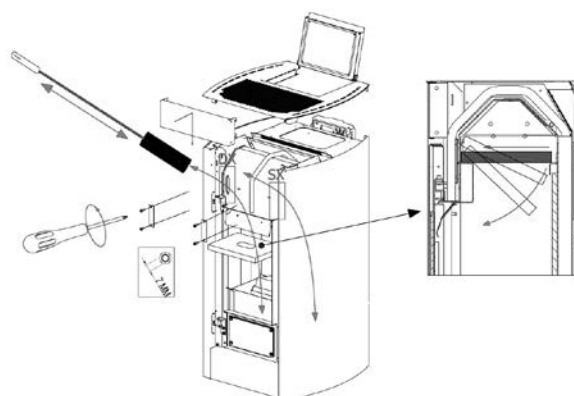

Fig. 39 - Cleaning
- Remove the upper deflector (see **Fig. 39**), vacuum any ash and clean the internal combustion chamber walls.